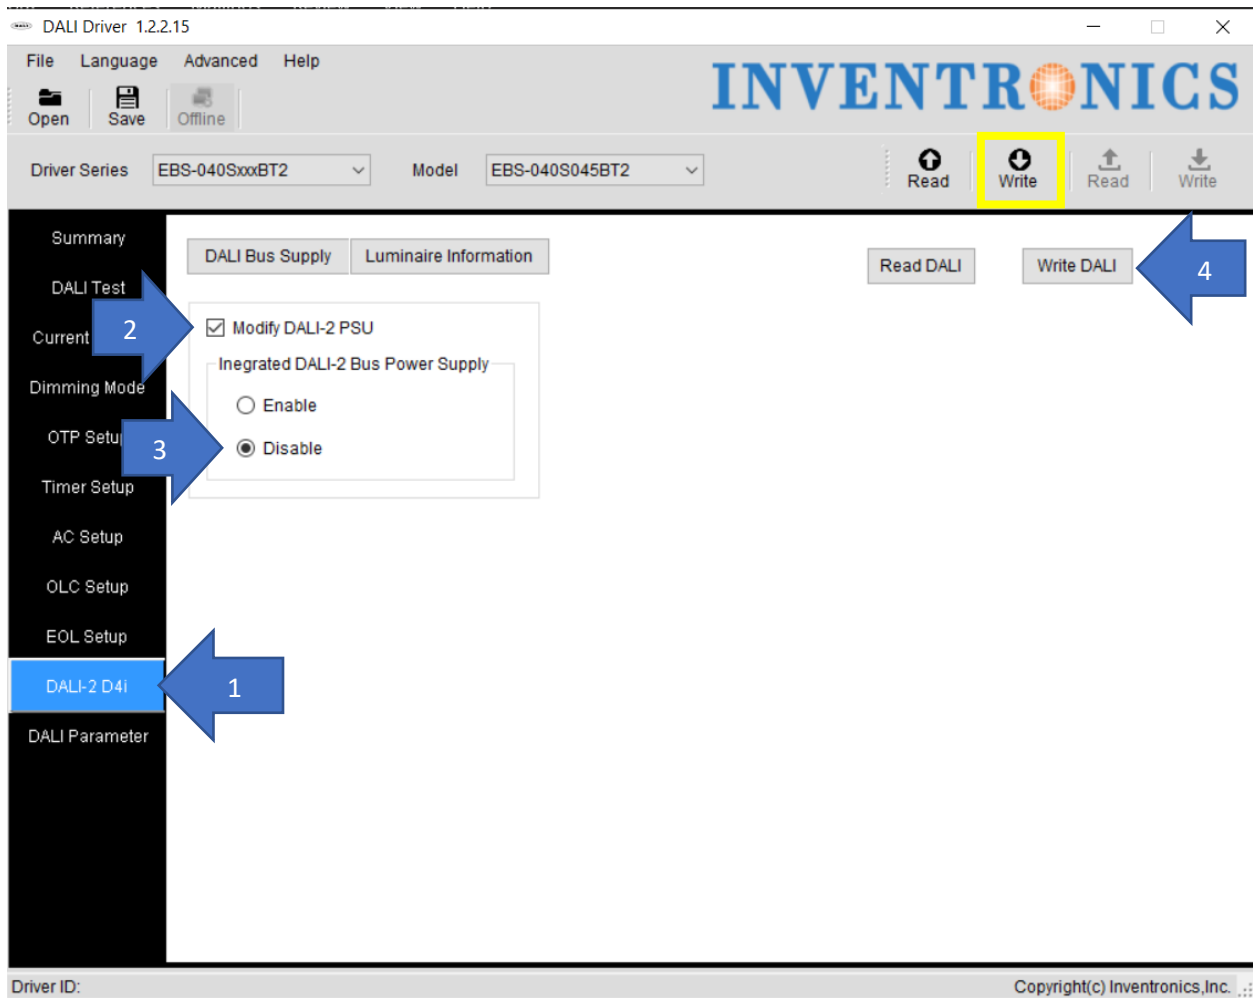

Figure 5: Programming the Driver
7. Program the Driver (Figure 5)